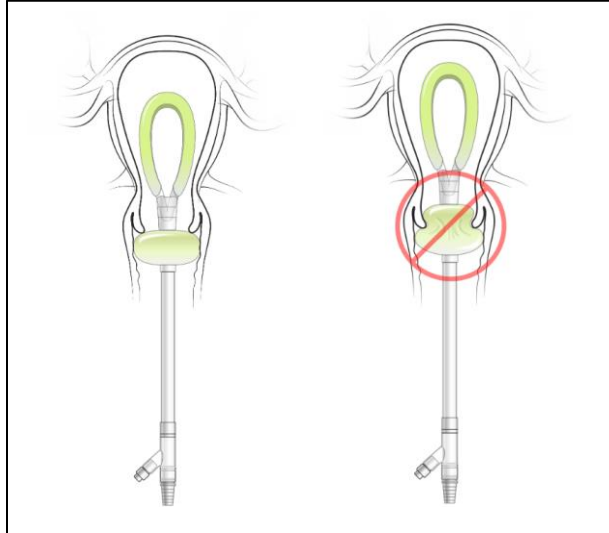

Figure 2
10. After insertion, the Intrauterine Loop should be within the uterus while the Cervical Seal should be located within the vagina at the external cervical os (**See Figure 2**).